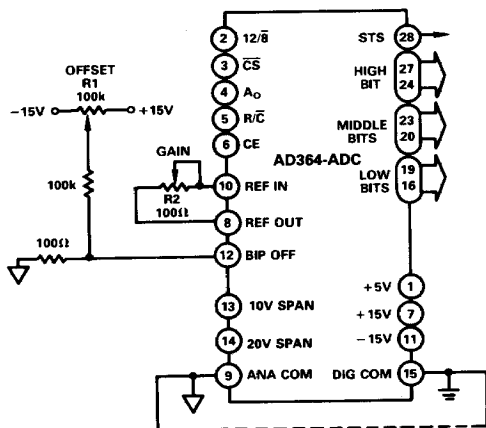

Figure 10a. Unipolar Gain & Offset
Offset Adjust, AD364-ADC: Offset adjust circuits for unipolar and bipolar operation are shown in Figures 10a and 10b. In each case the potentiometer should be a multi-turn, low temperature coefficient device, such as 20-turn cermet. Lowest offset drift in unipolar operation will be realized when the fixed resistors are low-TC ($100\ \text{ppm}/^\circ\text{C}$) metal-film types.
*Refer to Figure 10a for gain and offset adjustments.